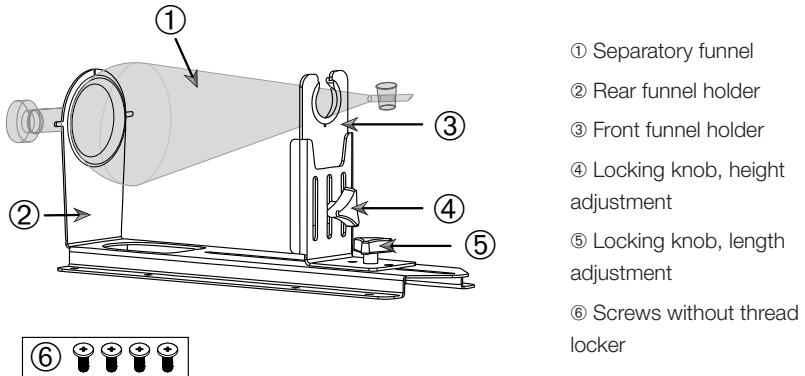

Figure 97: Separatory Funnel Clamp Assembly
1. Place utility tray ② on platform.
3. Fasten the utility tray ② using the screws ③ supplied with the utility tray.
4. Place rubber mat ① in tray ②.
5. Place bottles on the tray and secure with the O-rings ④ supplied, as shown in Figure 97.